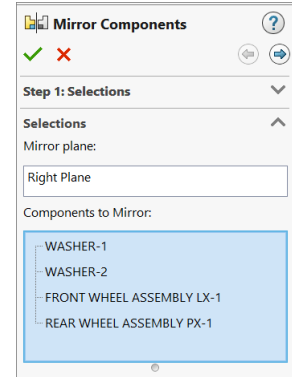

Fig. 25
Step 3. In the Mirror Property Manager click OK , **Fig. 25**.